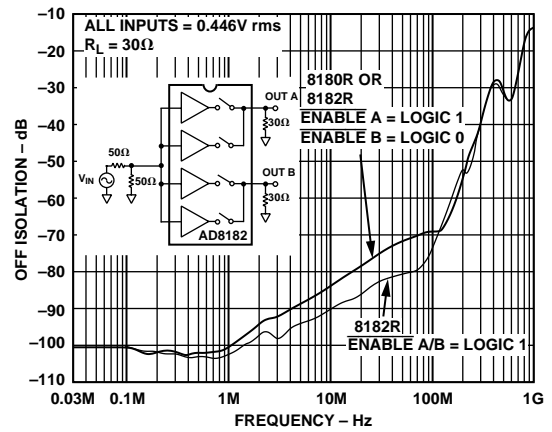

Figure 14. "OFF" Isolation vs. Frequency
- 7Mux is disabled (i.e., ENABLE = Logic 1) and all inputs are driven simultaneously with VIN = 0.446 V rms. Output is monitored at f = 5 and 30 MHz. RL = 30 Ω to simulate RON of one enabled mux within a system (see Figure 14). In this mode the output impedance is very high (typ 10 MΩ), and the signal couples across the package; the load impedance determines the crosstalk.